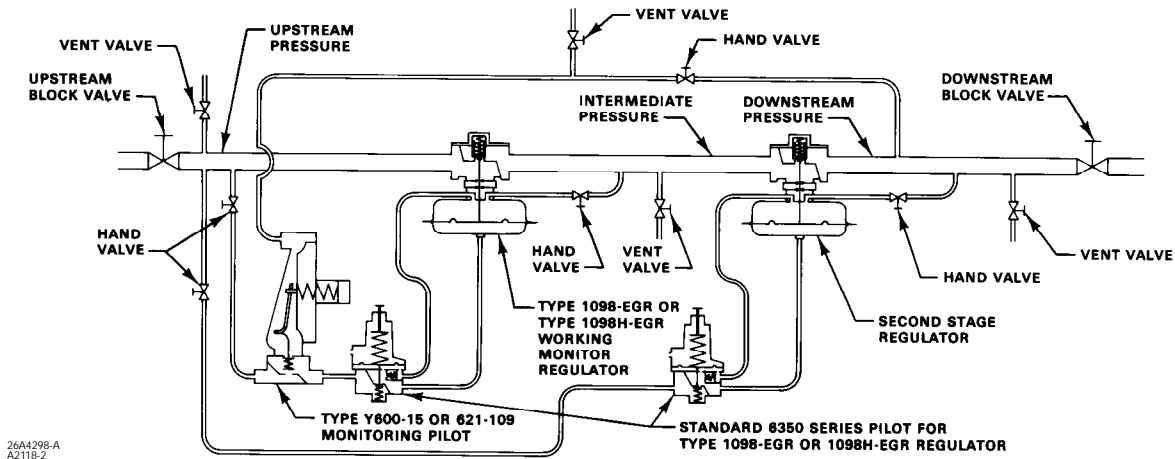

Figure 5. Typical Working Monitor Installation
2. Connect another downstream pressure control line and hand valve (figure 5) to the monitoring pilot according to the monitoring pilot instruction manual. Attach a 1/2-inch NPT intermediate pressure control line and hand valve from the intermediate pressure pipeline to the working monitor regulator. Pipe supply pressure between the monitoring pilot and the working monitor regulator according to the monitoring pilot manual.
On a working monitor installation (figure 5), be sure that the second-stage working regulator is set to operate at a pressure lower than the Type 1098-EGR or 1098H-EGR working monitor regulator. To do this, increase the setting of the monitoring pilot until the working pilot is in control of the intermediate pressure and the second-stage working regulator is in control of the downstream pressure. If this is not done, the monitoring pilot tries to take control of the downstream pressure.
- b. Install special piping (not shown in figure 5) so that the monitoring pilot senses the intermediate pressure. The intermediate pressure then appears to the monitoring pilot as if it were increased downstream pressure, and the monitoring pilot controls and reduces the intermediate pressure. Adjust the monitoring pilot setting until the desired emergency downstream pressure is achieved at the intermediate pressure stage. Then slowly close the special piping, and open up the monitoring downstream control line for normal service.
A working monitor system (figure 5) reduces pressure and throttles while the working monitor regulator is in operation. If the working regulator fails open, the working monitor regulator takes over the entire pressure reduction function. The working monitor concept allows observation of the performance of the first-stage regulator at all times.